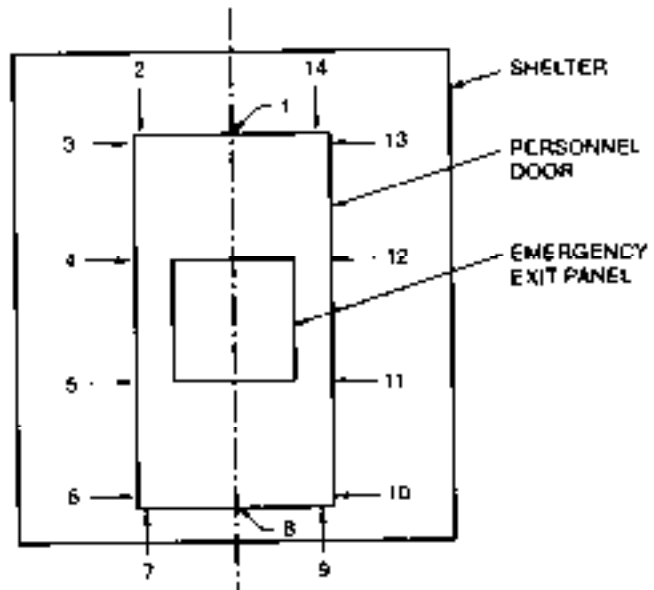
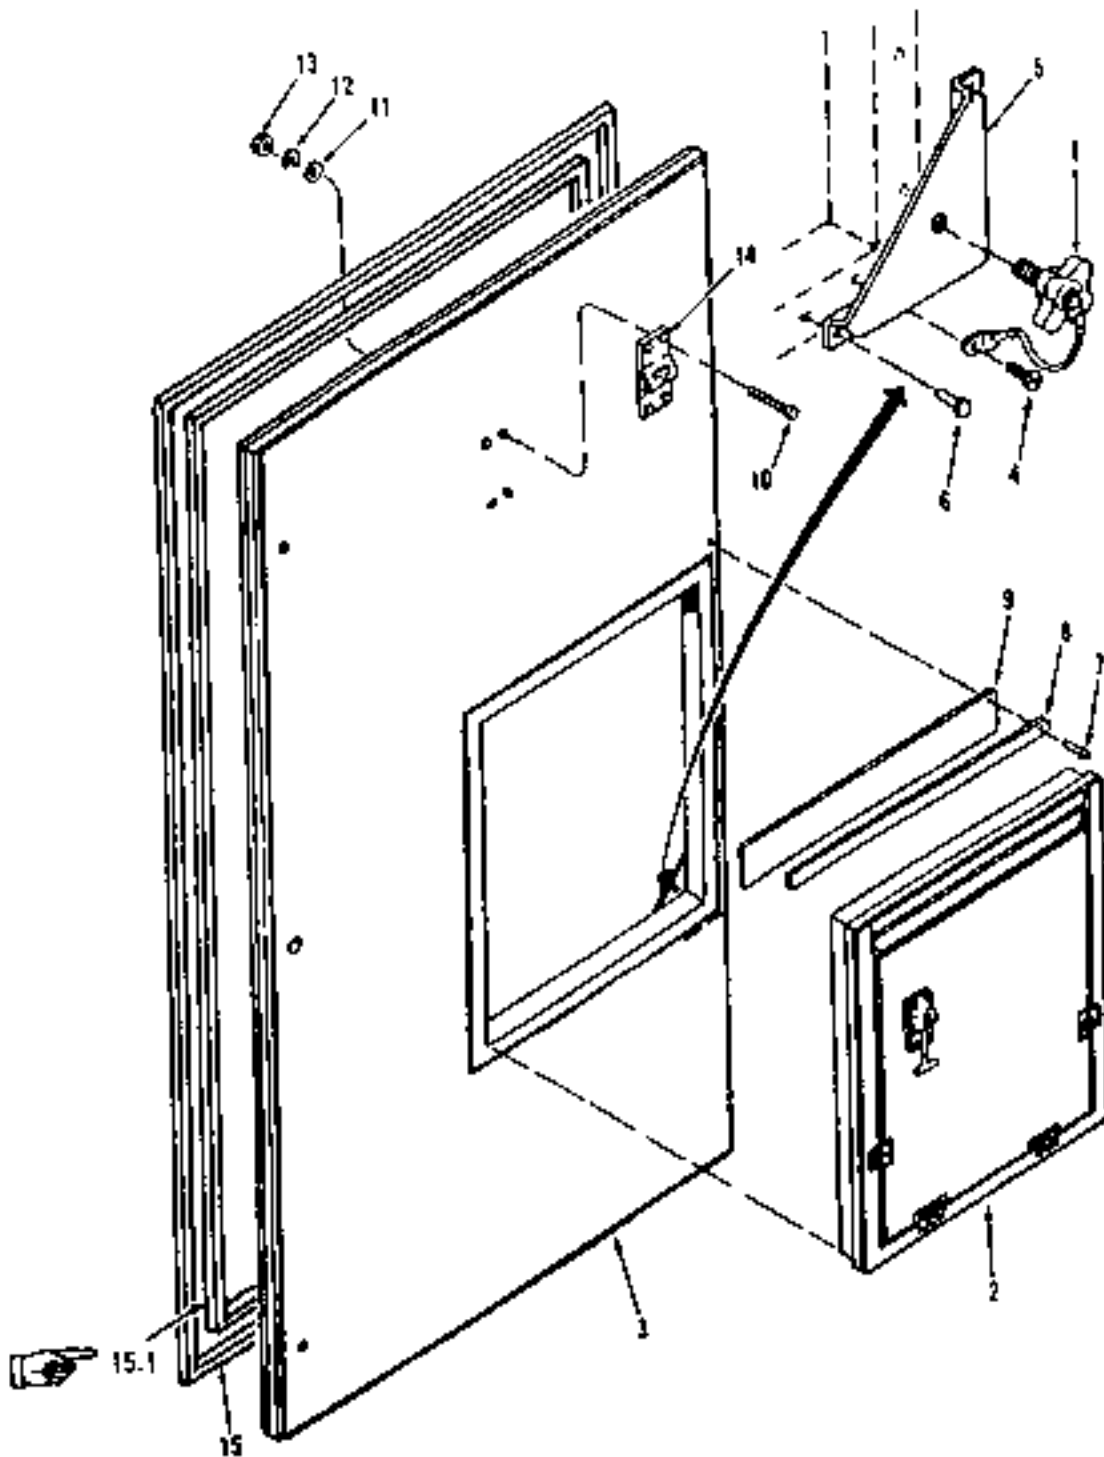
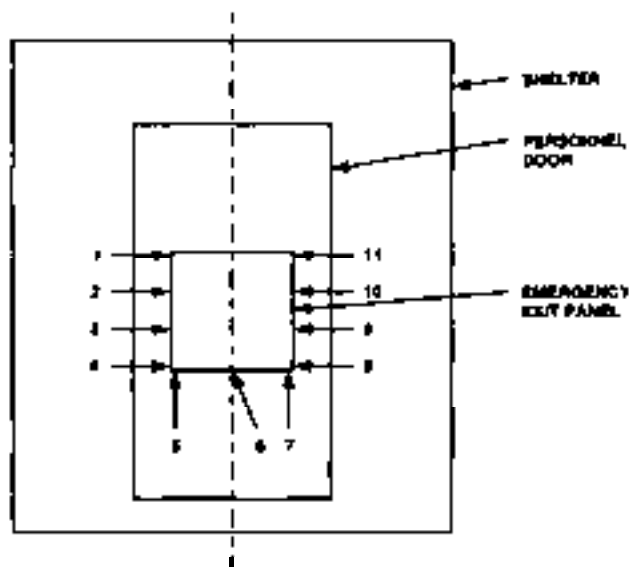

Figure 3-17. Typical Locations for Door Gasket Testing.
Figure 3-20. Door Assembly Maintenance.
Figure 3-21. Typical Locations for Emergency Exit Panel Gasket Testing
a. Inspect. (Figure 3-20)
- (1) Inspect the door assembly (2) for external damage.
- (2) Inspect the silicone weather gasket (15) for tightness.
- (3) (Shielded) Inspect the EM gasket (1.1) for damage and secure mounting.
- (4) Inspect the door for positive closing and proper operation.
- (5) Inspect the knob assemblies (1) for tightness for securing the emergency exit panel (2) to door panel.
b. Test. (Figure 3-17) Test of the door assembly consists of testing for proper seal pressure on the silicone weather gasket. The procedure listed below shall be performed at the center top and bottom of the door; 1/2 inch from each corner; and along the sides of the door in 2 places (approximately 1/3 and 2/3 the height of the door), as shown in Figure 3-17.
- (1) Place a single piece of paper (0.005 inches maximum thickness by 2-1/2 inches wide) between the silicone weather gasket and its bearing surface.
- (2) Close and lock the door.
**e. Disassemble.** (Figure 3-20)
- (1) Turn each of the four knob assemblies (1) counterclockwise to release the emergency exit panel (2) and remove panel from door (3).
- (2) Remove rivet (4) attaching the knob assembly chain (4) to retainer bracket (5) and remove knob. Refer to paragraph 3-9.a. for rivet removal.
- (3) Remove two rivets (6) attaching each air inlet panel retainer (5) to door panel (2) and remove retainers.
- (4) Remove 17 rivets (7) attaching the drip moulding (9) to door and remove drip moulding (9) and drip cap strip (8).
- (5) Remove and retain four phillips head screws (10), flat washers (11), lock washers (12), and nuts (13) attaching each T-latch holder (14) to door (3) and remove holder (14).
- (6) Remove the silicone weather gasket (15) and clean any adhesive residue from track.
- (7) (Shielded) Remove the EM shield (15.1).
**f. Assemble.** (Figure 3-20)**CAUTION**
- (1) For assembly instructions to secure the roller latch assembly on a new door, refer to paragraph 3-20.
- (2) Position door in place and turn door handle to closed position.
- (3) Butt each of the four hinges (8) against the door and secure using two 5/16-24 x 2-27/32 bolts (4), one 5/16-24 x 2-23/32 bolt (5), three flat washers (6), and three self-locking nuts (7).
- (4) Secure the door stop bracket (2) to inside of door using ten phillips head screws (1) and with a phillips head screw (3) secure the chain end.
**h. Repair.** (Figure 3-20) Repair of the door assembly consists of panel replacement and repair of the silicone weather gasket, (Shielded) EM shield, knob assemblies, air inlet panel retainers, drip moulding and T-latch holder.
- (1) Inspect the panel for external damage.
- (2) Inspect the silicone weather gasket (1) located on the outside track on the inside periphery of the panel, and weather gasket (2) located on the inside edge of the panel cover.
- (3) (Shielded) Inspect the EM shield (1.1) located adjacent to the silicone weather gasket (1).
- (4) Inspect the air filters (11) for wear and cleanliness.
- (5) (Shielded) Inspect the RFI/EMI filter (17.1).
- (6) Inspect the four latches (5) for wear and secure mounting.
- (7) Inspect the intake louver assembly (17) for damage and secure mounting.